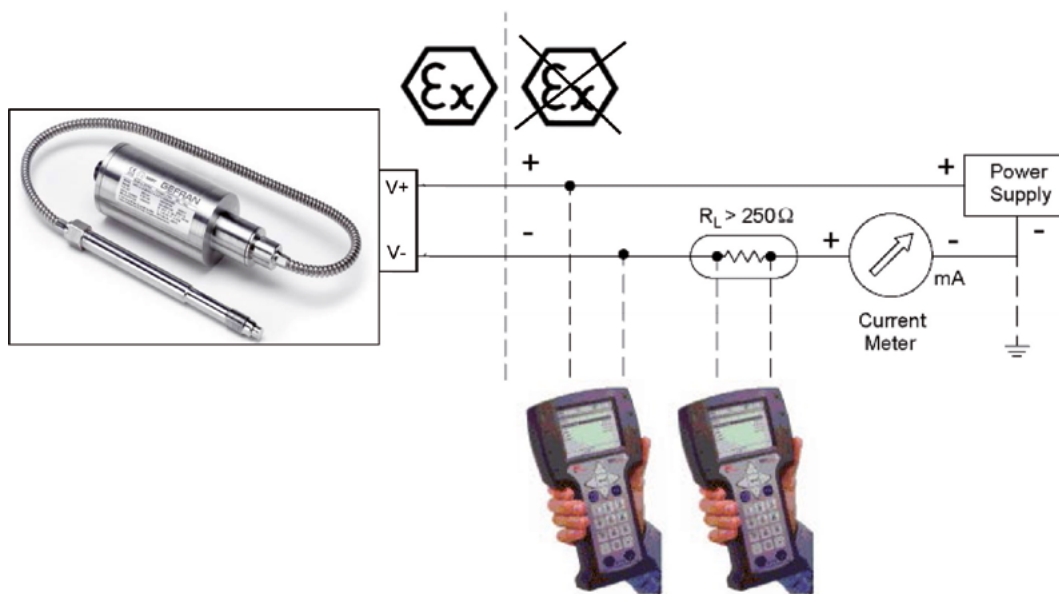

Fig. 8.1. Hart Handheld Communicator Interface
- 1) Connect Communicator to the loop. In case it's not sure on how to do this, please refer to "Connecting the HART Handheld Communicator" (Fig. 8.1).
Please see the picture below (Fig. 8.1).